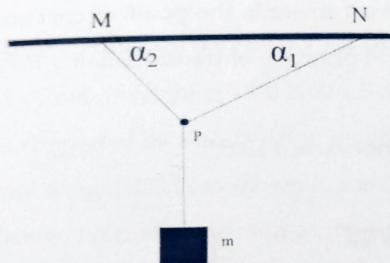

Fig 2.16
- 3) Draw FBD of a block suspended to the ceiling using three strings shown in fig 2.16.